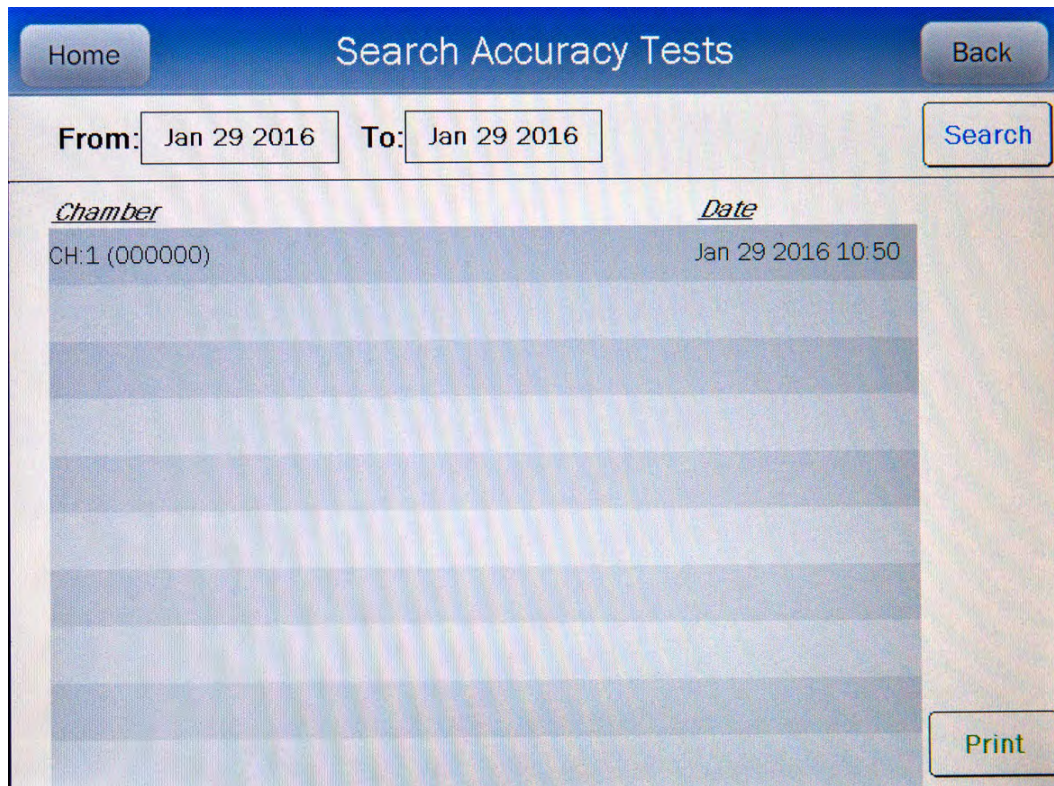

Figure 13-19 Search Accuracy Tests Screen after Searching
When the From and To dates are correct, touch the **SEARCH** button. The screen displays a listing of the data for the Accuracy Tests performed within the specified date range as shown in Figure 13-19 Search Accuracy Tests Screen after Searching.
To exit Figure 13-19 Search Accuracy Tests Screen after Searching,
To obtain a detailed report for a particular Accuracy Test result, from Figure 13-19 Search Accuracy Tests Screen after Searching, touch the desired result on the list. The result will become highlighted and a **VIEW** button will appear on the screen similar to that shown in Figure 13-6 Search Daily Tests Screen with Highlighted Test Result. (If necessary, scroll the list until the desired result is displayed.)
- touch the **BACK** button – Figure 13-19 Search Accuracy Tests Screen after Searching will re-appear or
To complete the inactivation of the selected Accuracy Test result, touch the **YES** button. Figure 13-19 Search Accuracy Tests Screen after Searching will re-appear with a line through the characters of the inactivated Accuracy Test.